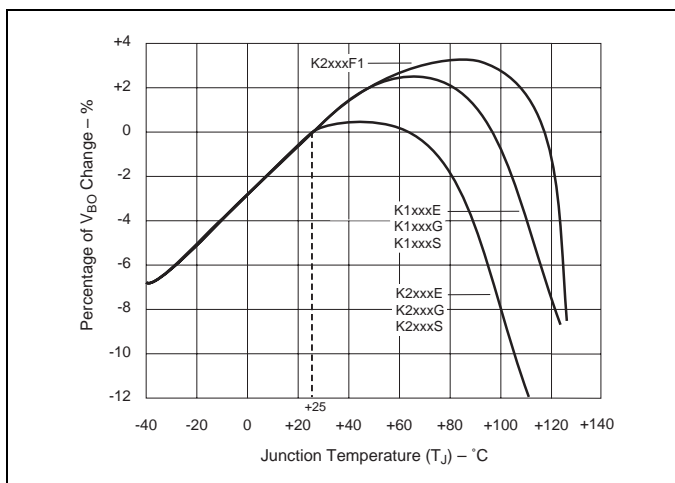

Figure E9.5 Normalized V_{BO} Change versus Junction Temperature
- See Figure E9.5 for V_{BO} change versus junction temperature.